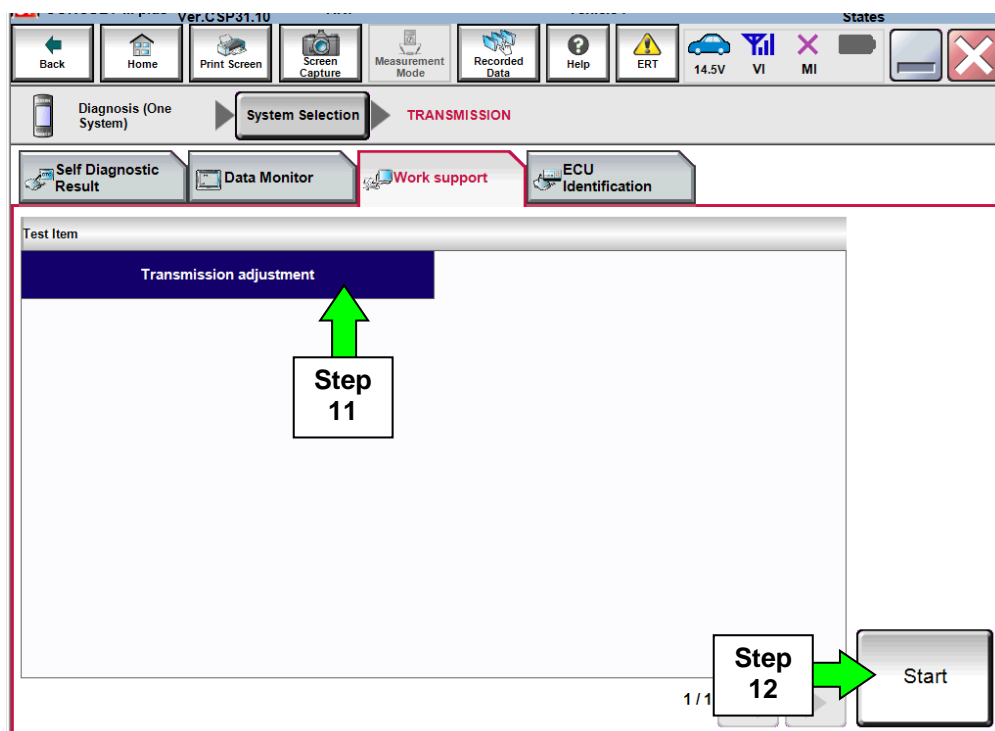

Figure 2B
10. Navigate C-III plus to **Transmission > Work support** (see Figure 2B).